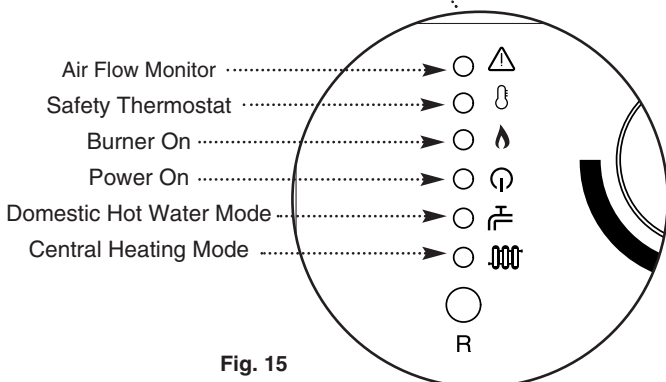

Fig. 15
2. On starting the boiler the indicator (  ) will be on while the sensor checks that the fan is functioning correctly (Fig. 15).
2. If the device operates, the safety thermostat indicator will light (  ) and the boiler will shut down (Fig. 15).
### 3.5 Burner On Indicator (Fig. 15)
### 3.6 Supply Indicators (Fig. 15)